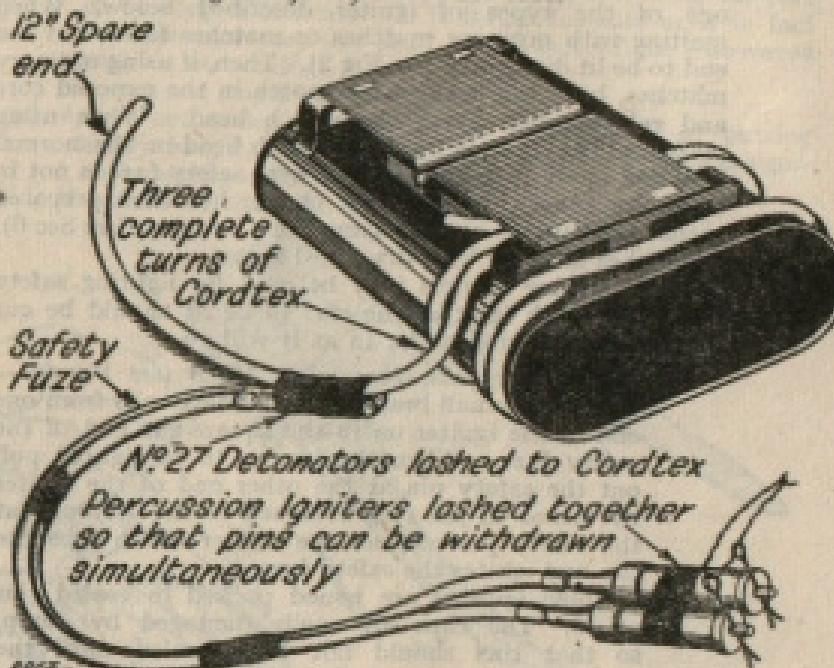

Fig 6. No. 75 grenade prepared as a demolition charge
(b) *Initiation.*—The grenade will be initiated by wrapping three turns of detonating fuse (see Sec 5) round the end containing the primer, as shown in Fig 6. It is NOT to be detonated by the igniter set supplied for use when it is employed as an anti-tank mine. If an attempt is made to initiate it with detonator and safety fuse or detonating fuse in one of the normal detonator holes, failures up to 50 per cent may result. There are two reasons for this. First, when the detonator is fired by the igniter set (i.e. when in use as an anti-tank mine), the pressure on the plate tends to press the detonator down on to the priming charge. This does not occur when the grenade is used as a demolition charge. Secondly, the safety fuse may contract in length as it burns and draw the detonator back so that it is not directly over the priming charge when it explodes.
(a) *Inserting safety fuze into detonator.*—Cut one end of the fuze with a sharp knife on a hard surface, taking care to make a clean cut; take a detonator from the box and empty any sawdust or other foreign matter out of it by tapping on the thumbnail. Insert the squared end of the safety fuze into the detonator and push it gently but firmly as far as it will go. Do NOT employ any screwing action. Hold the safety fuze between the third finger and thumb and crimp the detonator on to the fuze near the open end with a pair of crimping pliers, holding the detonator in place with the forefinger while doing so (see Fig 6); or use the marlin spike of a jack knife. The use of the teeth is not recommended. NEVER CRIMP THE DETONATOR NEAR THE CLOSED END.
(i) *Igniter, safety fuze, percussion Mk 3 (see Fig 6).*—Crimp the small brass tube which extends from one end of the igniter on to the square-cut end of the safety fuze. When the fuze is to be lighted pull out the safety pin at the other end of the igniter by means of the ring attached to it. Pulling out the safety pin releases the striker which fires the cap and ignites the safety fuze.
All ranks concerned must understand the possible causes of failure and must also realize that however much care is taken, no initiating set can ever be guaranteed as 100 per cent certain. The set cannot be tested, as the only test is to fire it. Consequently on all important demolition work, particularly assault work, and preferably always, **TWO INITIATING SETS SHOULD BE USED**. This gives a reasonable guarantee against failure. The use of two sets, whatever the importance of the job, is a good habit to form (see Fig 6).
**NOTE.**—The 75 grenade has a special primer incorporated in it and is initiated with 3 turns of cordtex round the end opposite the filler cap as shown in Fig 6.